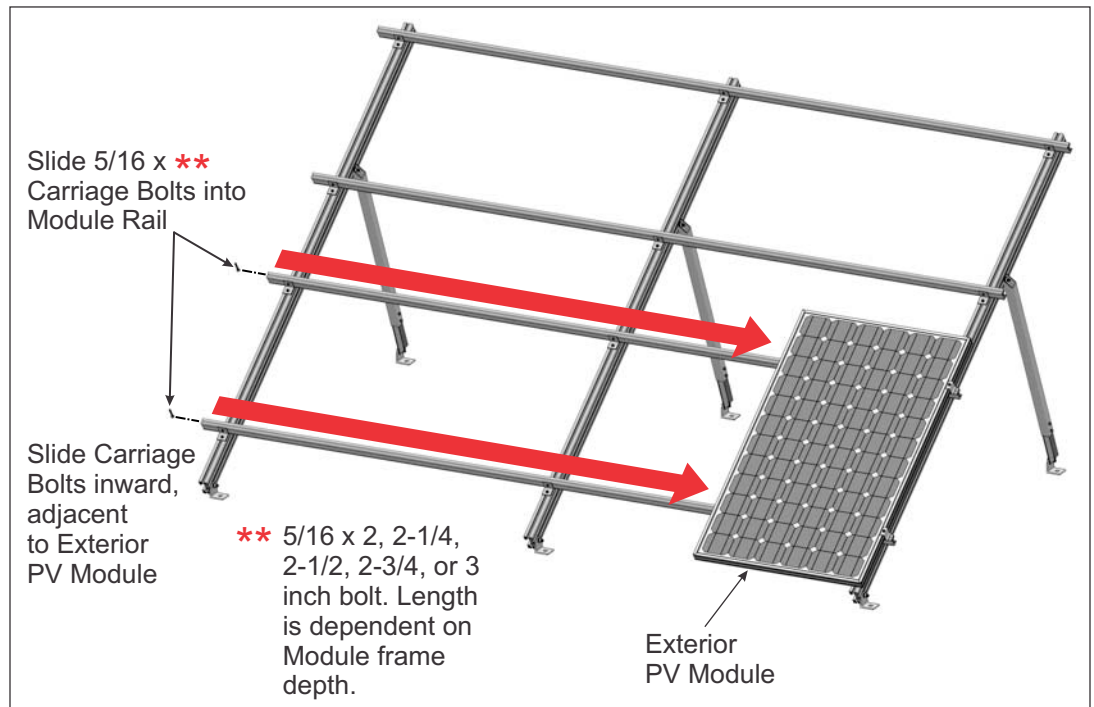

Figure 8-4: Inserting Mid Clamp Hardware into Power Rail
- C. Before placing the interior Module onto the Power Rails, first insert 5/16" x 2, 2-1/4, 2-1/2, 2-3/4, or 3" carriage bolts (bolt length is dependent on depth of Module frame) into the Module Rail, sliding the bolts inward next to the previously installed exterior Module. (See Figure 8-4)